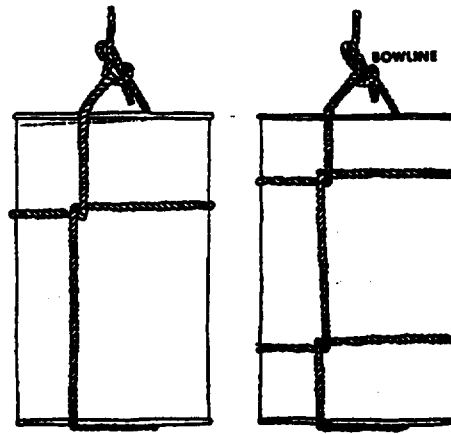

Fig. 7-1g Barrel sling
- g Barrel slings are designed specifically for handling barrels similar to oil barrels. This style of drum has a chime and chime hoops that are designed to withstand the force applied during hoisting. If the condition of the barrel is in doubt use of a choker sling or rigging a barrel hitch is recommended instead of the barrel sling (See **Figure 7-1g.**)